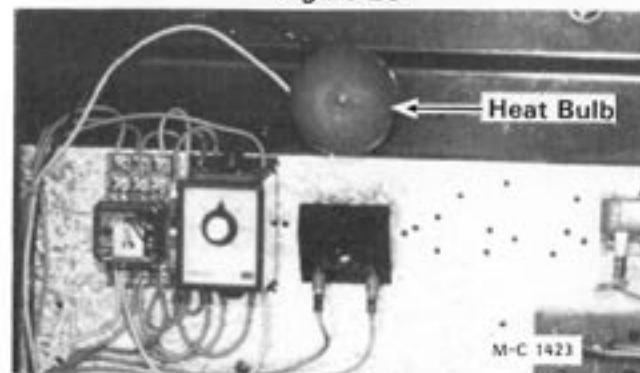

Figure 27
- The heat bulb in the upper control cabinet, Figure 27, will always be on when the electric power supply to the dryer is on. It does not have an ON-OFF switch.